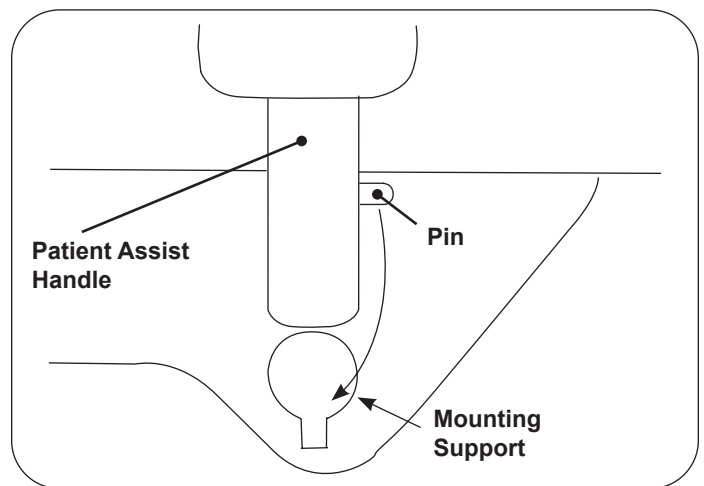

Figure 22. Patient Assist Handle
3. Align pin on Patient Assist Handle shaft with mating slot on side of table. See Figure 22.